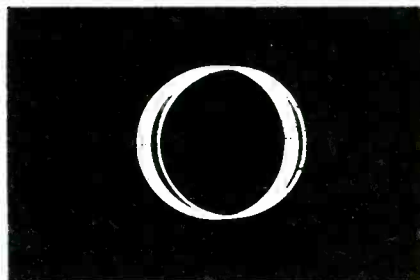

Fig. 9 — Horizontal jitter.
A. A typical situation of jitter is shown in Fig. 9. In this case, the positioning voltage on the horizontal deflecting plates of the cathode-ray tube varied as a result of line-voltage fluctuation. The difficulty can be cured by operating the scope from an automatic line-voltage regulating transformer.